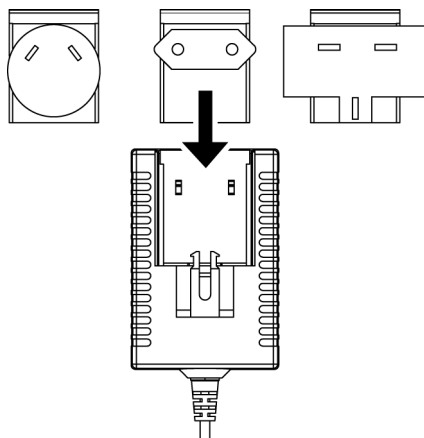

Fig. 3.6 PS4 Universal AC/DC Power Supply
1. Squeeze both sides of the PS4 latch lock (see Fig. 3.6).